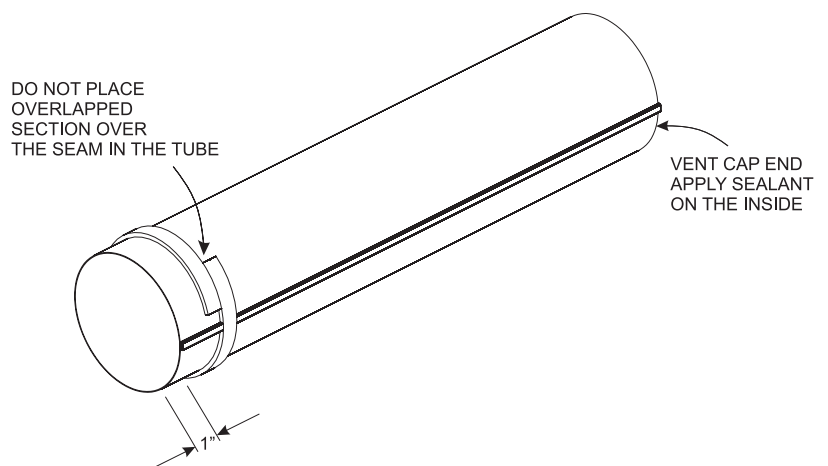

Figure 55
12. Seal the 4" (102 mm) diameter flue outlet tube. Follow instructions and diagram (**Figure 55**).
If the air inlet and flue outlet tubes are to be connected directly to the unit (no rigid venting system is being used), then the gasket provided must be used to seal the 4" (102 mm) flue outlet tube. Peel the paper off the self-adhesive gasket and then wrap it around the end of the tube (if tube was cut, it is recommended to use cut end) as shown in **Figure 55**. Pull the gasket tight at all times while wrapping it around tube. The gasket ends should align, to form a complete seal. The overlapped section should NOT come in contact with the seam in the tube. Apply high temperature sealant to the opposite end of the tube (on the inside of the tube). The end with the gasket will attach to the back of the unit. Continue with Step 13.